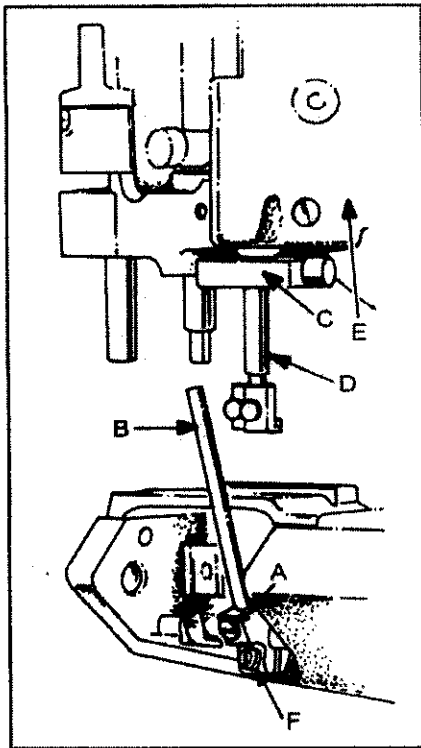
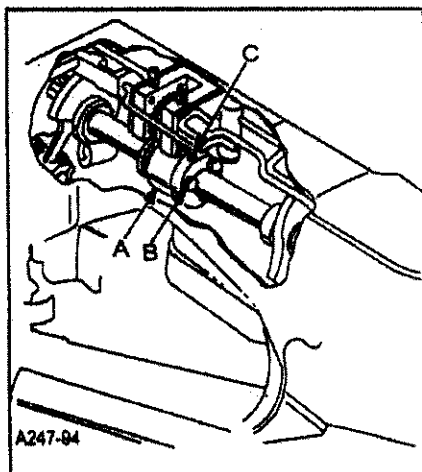

FIG. 2
FIG. 3
To synchronize the machine, remove the needles, presser foot, throat plate, feed dogs and upper feed roller mechanism. Rotate handwheel in the operating direction until the needle bar is at the bottom of its stroke and just begins its upward travel. Loosen screw (A, Fig. 2) and remove the looper for the left hand needle from the looper holder. Insert a straight steel rod (B) $5/32$ " (3.9mm) or $11/64$ " (4.3mm) diameter by $2-1/2$ " (63.5mm) long into looper holder and retighten screw (A). Rotate the handwheel until the rod (B) is at the extreme left and reinstall the throat plate. Loosen screw (F) in looper holder and move the holder left or right until the right side of the rod is approximately $5/32$ " (4.0mm) from the left edge of the throat plate, tighten screw (F). Turn the handwheel in the operating direction, with needle bar rising until rod (B) comes in contact with the edge of the throat plate. At this point, clamp timing gauge No. TT147 (C) around the needle bar (D), flush against the underside of the machine casting (E). Rotate handwheel in the opposite direction until needle bar or the rod contacts the edge of the throat plate. Maximum allowable clearance between gauge and casting or rod and throat plate is $.005$ " (0.1mm).
Both ends of the adjustable split coupling are secured to the crankshaft and main shaft by spot screws and set screws. On the main shaft end of the coupling (A, Fig. 3) three screws (B) thread horizontally through the coupling. The holes in the main shaft end of the coupling are larger than the diameter of the screws, permitting several degrees of rotation in either direction to properly synchronize the needle and looper. Loosen the three horizontal clamp screws (B, Fig. 3). With rod (B, Fig. 2) at its farthest position to the left, snug the uppermost horizontal clamp screw enough to hold coupling (A, Fig. 3) in position. If the handwheel is turned in reverse of operating direction and gauge (C, Fig. 2) on needle bar (D) contacts the machine casting (E) before rod (B) contacts the edge of the throat plate loosen horizontal clamp screw (B, Fig. 3) which was snug, while holding the coupling in place with an Allen wrench in set screw (C). Rotate the handwheel slightly in reverse of operating direction, snug the uppermost horizontal clamp screw (B), recheck synchronization. If the handwheel is turned in reverse of operating direction and the rod contacts the edge of the throat plate before the clamp gauge contacts the machine casting, adjust as before, except turn the handwheel slightly in the operating direction. Use shim stock to insure no more than .005" (0.1mm) exists between gauge and casting or between rod and throat plate, in both the operating and reverse directions of the handwheel. When this setting has been made, tighten the three horizontal clamp screws (B, Fig. 3) securely, and recheck both clearance points with .005" (0.1mm) shim gauge to assure no slippage occurred while tightening the screws.